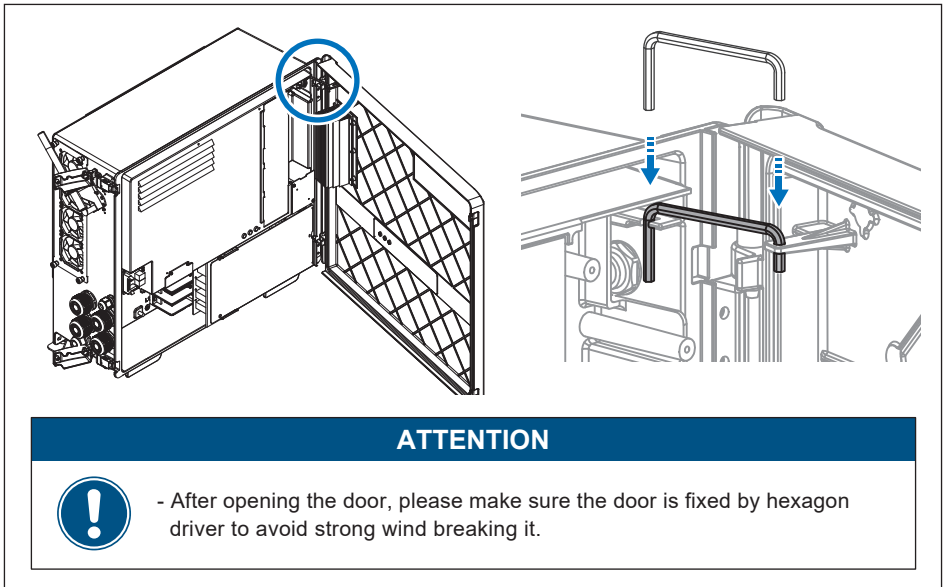

Figure 5-2: To secure door by hexagon driver
3. Open the front door and use the hexagon wrench to fix the door (**Figure 5-2**).
3. Remove the hexagon wrench and close the door (**Figure 5-2**).